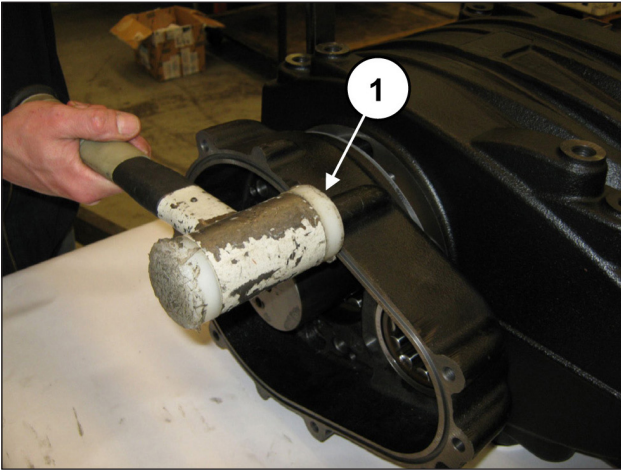

Fig. 63
Assemble the reduction gear box (and relative seal) using an extractor hammer (pos. ①, Fig. 63).